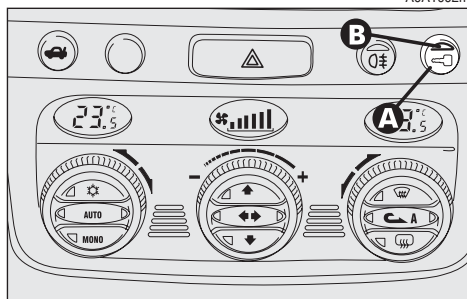

fig. 12
- To close the door, pull the flap. To prevent the door from being opened from outside press the button (A-fig. 12) on the dashboard, the deterrent led (B) on the button will turn on with a yellow light to confirm locking.